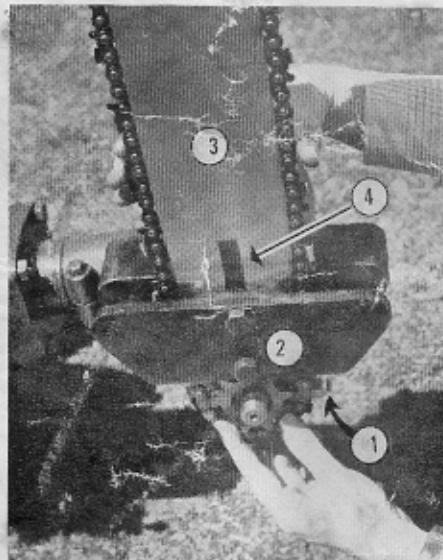

Figure 18
2. Loosen the Bracket Clamp bolt, 1 in Figure 18, until the Bracket, 2 in Figure 18, will slip onto the Gear Housing (it may be necessary to wedge the Bracket to make it fit). Line the lower edge of the Bracket even with the lower edge of the Housing — not with the
3. Loosen the Swivel Adjustment Bolt (on the Drive Assembly) and rotate the Bracket until the Guide Bar, 3 in Figure 18, points straight up. Then tighten the Swivel Adjustment Bolt.
Turn the Chain Adjusting Screw, approximate location on other side of Guide shown by 4 in Figure 18, clockwise to increase Chain tension. When the Chain is under proper tension, it will be slightly loose on the Guide Bar, but not loose enough to permit it to come out of its slot when grasped firmly